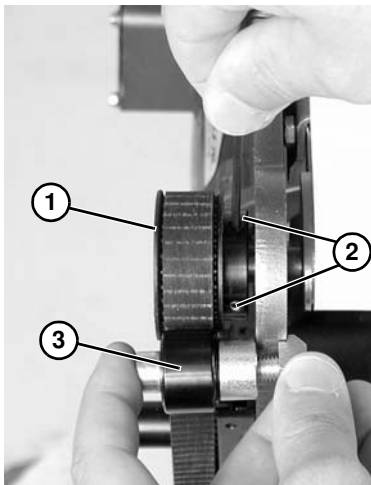

**Figure 9**
6. Install key (**Figure 9, item 1**).
7. Wrap timing belt (**Figure 9, item 2**) around driven pulley (**Figure 9, item 3**) and drive pulley (**Figure 9, item 4**). Install driven pulley (**Figure 9, item 3**) onto conveyor shaft.